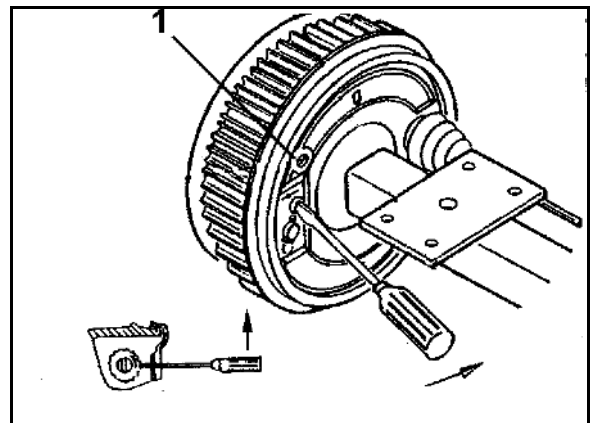

Fig. 120
- Inspection hole (Fig. 120/1)